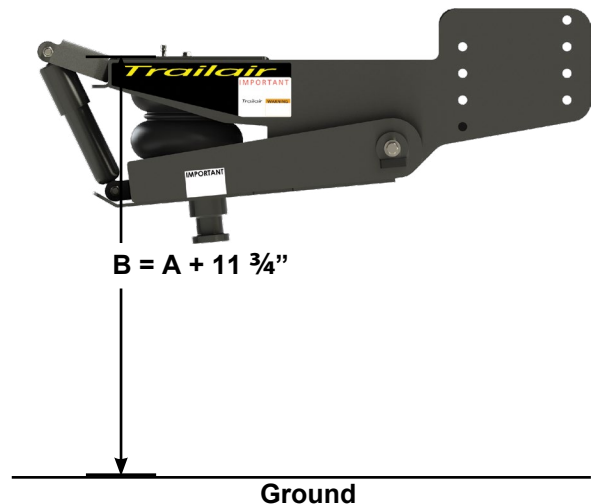

Fig.2
7. When installing the new pin box, measure from the ground up to the flat plate of the upper jaw of the pin box. Once the new pin box is aligned, that measurement should be equal to the measurement taken in step 2 plus 11 3/4". Record this dimension as B (Fig.2).